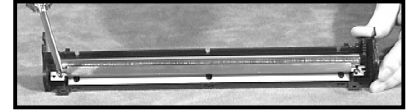

Figure 14
8. To clean the mag roller remove the toner scraper blade, 2 screws (fig. 14). Use compressed air to remove excess toner from the mag roller, followed by a clean cloth saturated with 99% IPA.